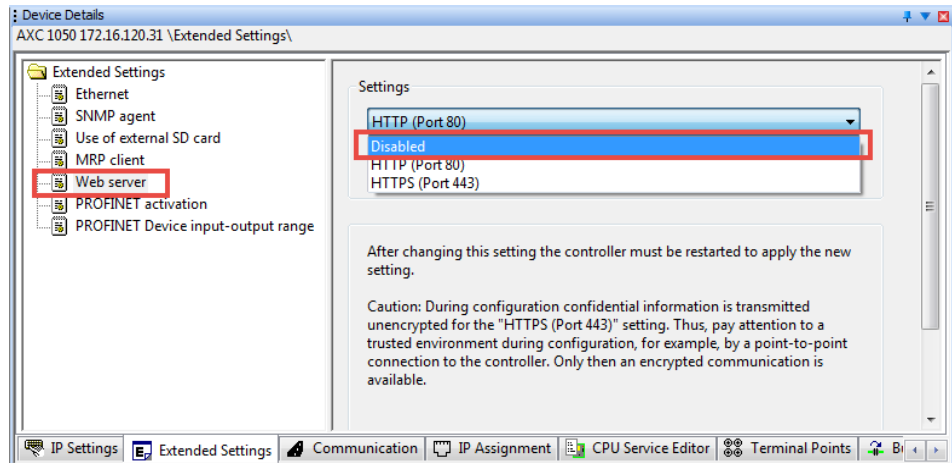

Figure 7-16 Disabling HTTP
- Click on the "Send" button (hidden by the drop-down list in Figure 7-16) to send the setting to the controller.